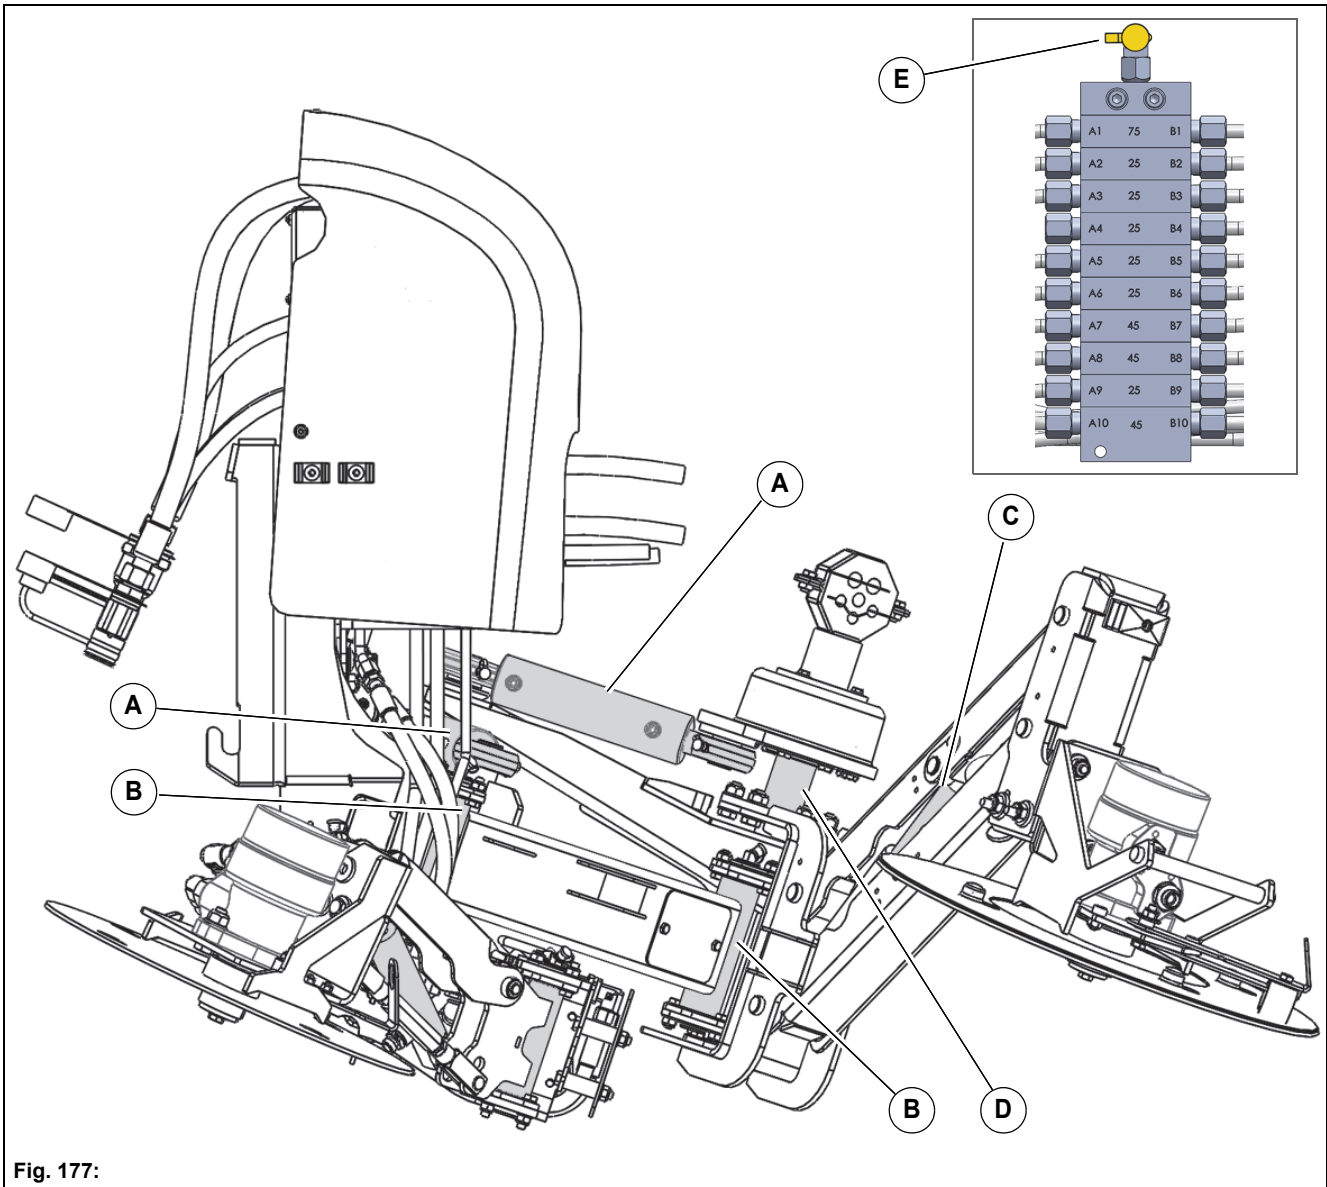

Fig. 177:
- at the hydraulic cylinders of the horizontal arm **Fig. 177-A** (x4)
- at the bearing bolts of the horizontal arm **Fig. 177-B** (x4)
- at the hydraulic cylinder for the vertical arm **Fig. 177-C** (x2)
- at the bearing bolt for the coupling **Fig. 177-D** (x1)
- Single-point lubrication system sweeping unit 3-brush system (optional) **Fig. 177-E**